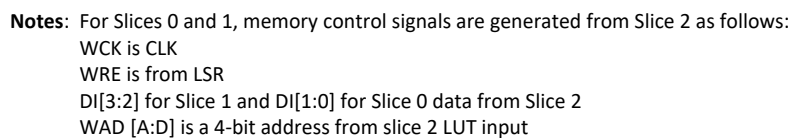
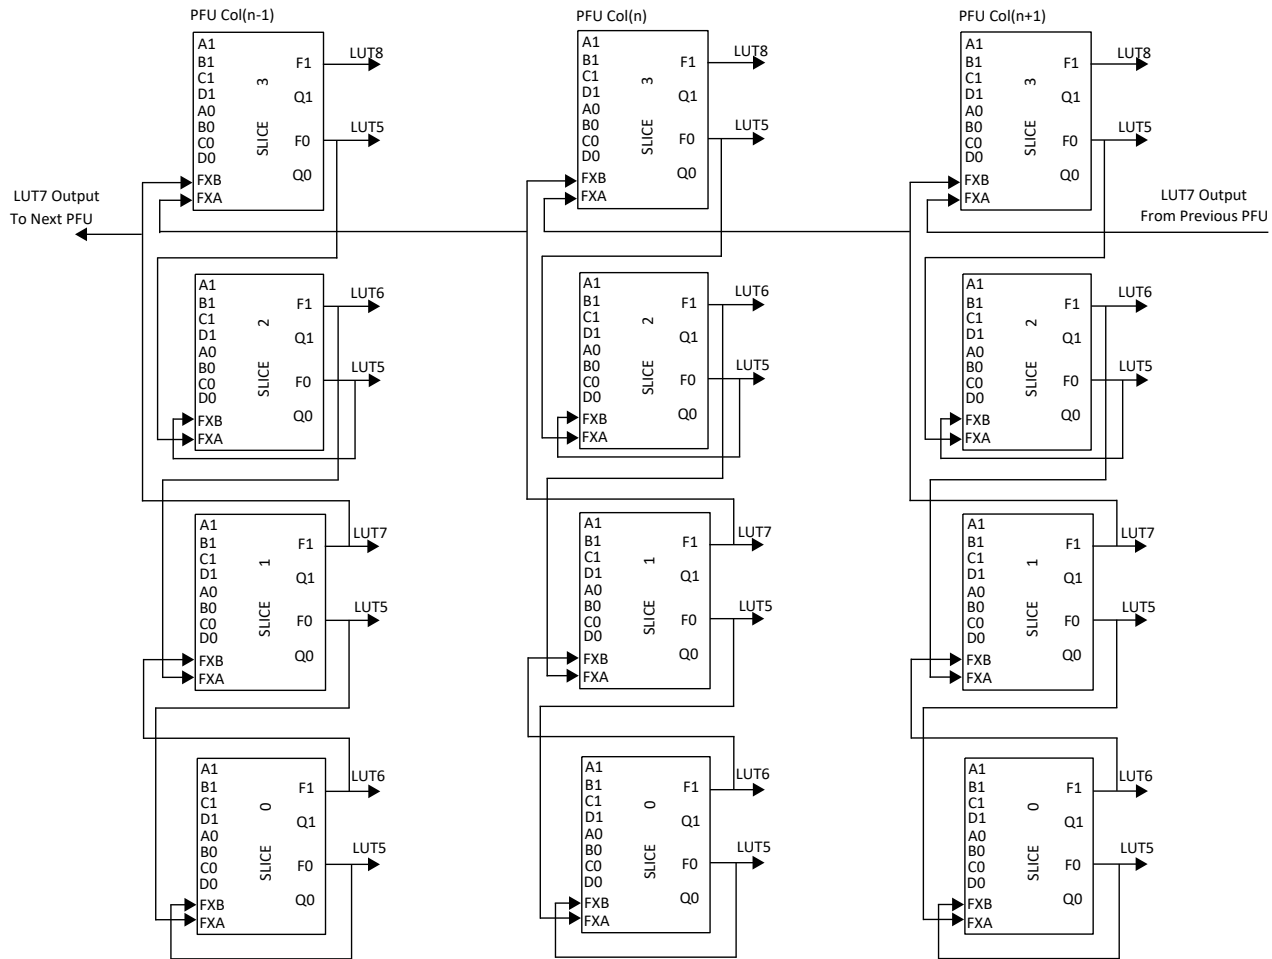

Figure 2.3. Slice Diagram
Figure 2.4. Connectivity Supporting LUT5, LUT6, LUT7, and LUT8
Figure 2.3 shows an overview of the internal logic of the slice. The registers in the slice can be configured for positive/negative and edge triggered or level sensitive clocks.
Each slice has 14 input signals, 13 signals from routing and one from the carry-chain (from the adjacent slice or PFU). There are five outputs, four to routing and one to carry-chain (to the adjacent PFU). There are two inter slice/ PFU output signals that are used to support wider LUT functions, such as LUT6, LUT7, and LUT8. Table 2.2 and Figure 2.3 list the signals associated with all the slices. Figure 2.4 shows the connectivity of the inter-slice/PFU signals that support LUT5, LUT6, LUT7, and LUT8.
1. See Figure 2.3 for connection details.